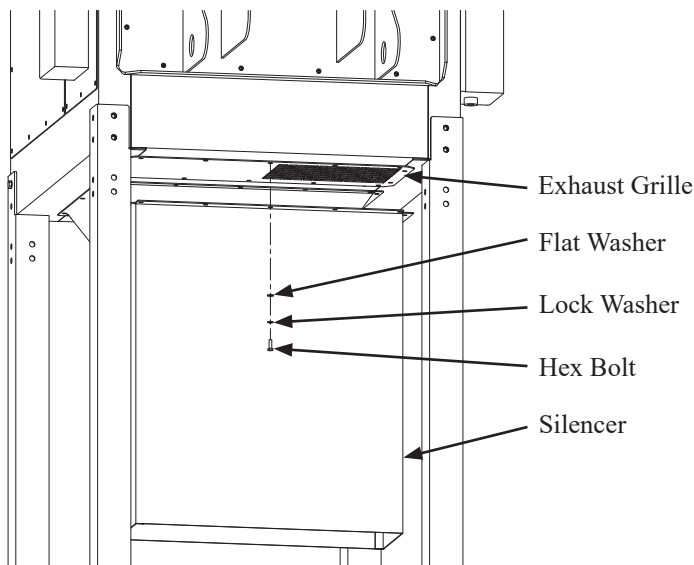

FIGURE 12B
3. Attach the silencer with the hardware removed in step one (Figure 12B)